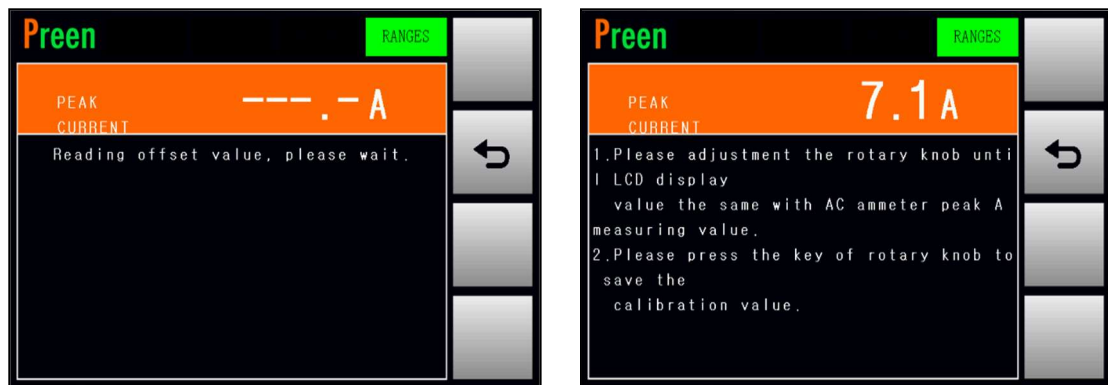

Figure 4.18 Enable the calibration of the peak current
3. Press the output & reset button on the front panel to enable the calibration of the peak current (refer to Figure 4.18), and then the product will start to output the voltage which is closed to 100V.